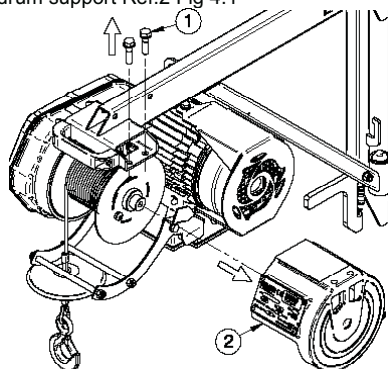

Fig. 4.1
4) Ensure that the load is securely connected to the elevator hook and also close the safety catch (ref.6 fig. 4.1).
1) remove the drum by unscrewing the 2 screws Ref.1 Fig.4.1 and removing the drum support Ref.2 Fig.4.1